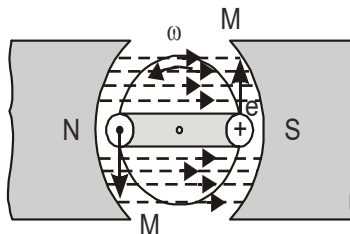

Fig. 4.65: Generator action
- (ii) *Law of electromagnetic induction* : This relates to the production of *e.m.f.*, i.e. *e.m.f.* is induced in a conductor whenever it cuts across the magnetic field (see fig. 4.65). This is called *Faraday's first law of electromagnetic induction*.